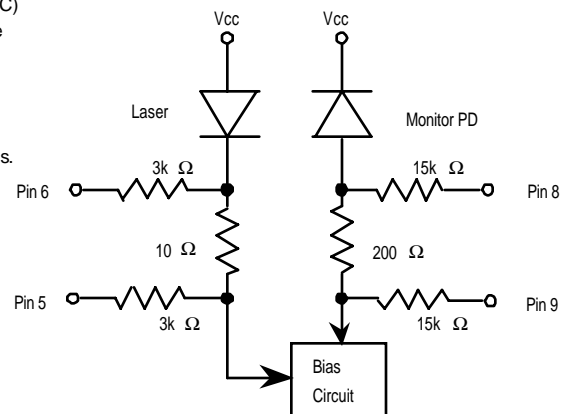

Figure 3 Monitor Circuit Schematic Diagram
9. The Laser Bias and Rear Facet Monitor currents are calculated as ratios of the corresponding voltages across the current-sensing resistors, 10Ω and 200Ω, respectively(refer to Figure 3). Upon measuring or utilizing these values, use a device whose input impedance is high enough(>1MΩ) compared with those resistors.